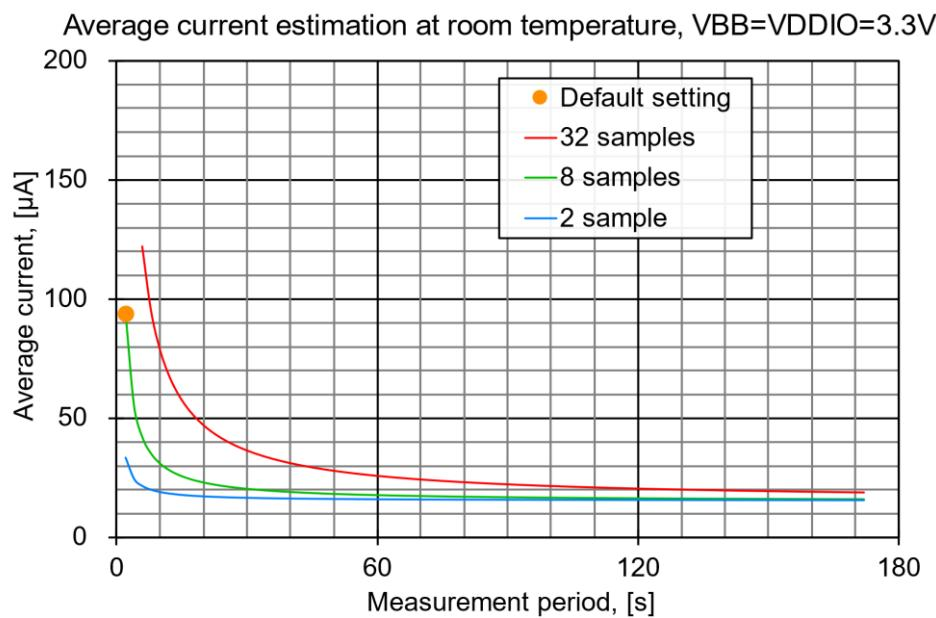

Figure 4 Average current
- Note 7: nRDY output pin disabled. See Figure 4 Average current.